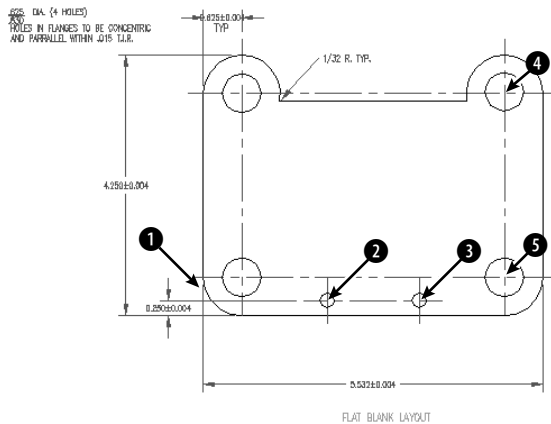

Figure 15-34: The tension arm needs some additional dimensions.
4. Choose Linear Dimension from the Dimension toolbar. At the Specify first extension line origin or <select object>: prompt, choose the endpoint at ❶ in Figure 15-34. (If necessary, press Tab until you see the endpoint tooltip.) At the Specify second extension line origin: prompt, choose the intersection at ❷. At the Specify dimension line location or [Mtext/Text/Angle/Horizontal/Vertical/Rotated]: prompt, choose an appropriate location above the bottom-most dimension.
6. Choose Linear Dimension from the Dimension toolbar. At the Specify first extension line origin or <select object>: prompt, choose the intersection at ❷ in Figure 15-34. At the Specify second extension line origin: prompt, choose the intersection at ❸. At the Specify dimension line location or [Mtext/Text/Angle/Horizontal/Vertical/Rotated]: prompt, pick the endpoint object snap at the right side of the previous dimension's dimension line in order to align the two dimensions.
10. Choose Linear Dimension from the Dimension toolbar. At the Specify first extension line origin or <select object>: prompt, choose the intersection at ❹ in Figure 15-34. At the Specify second extension line origin: prompt, choose the